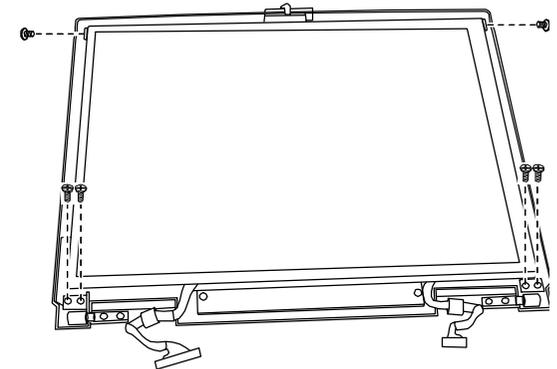

Figure 5-27. Removing the 13.3 inch LCD.
3. To remove the LCD, remove six screws and unplug the cables. (Refer to Figure 5-27)